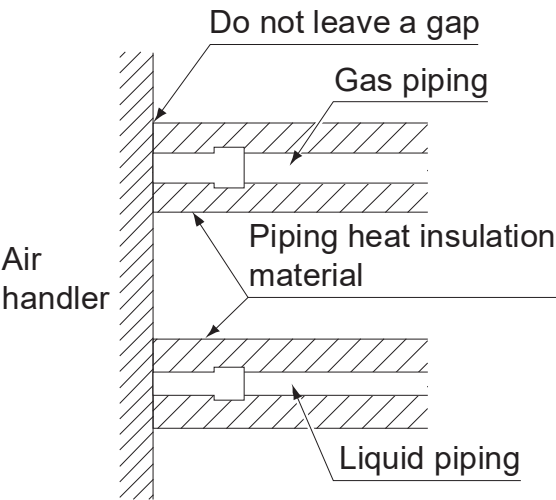

FIGURE 15
- After checking for gas leaks, be sure to insulate the piping connections referring to Figure 15.